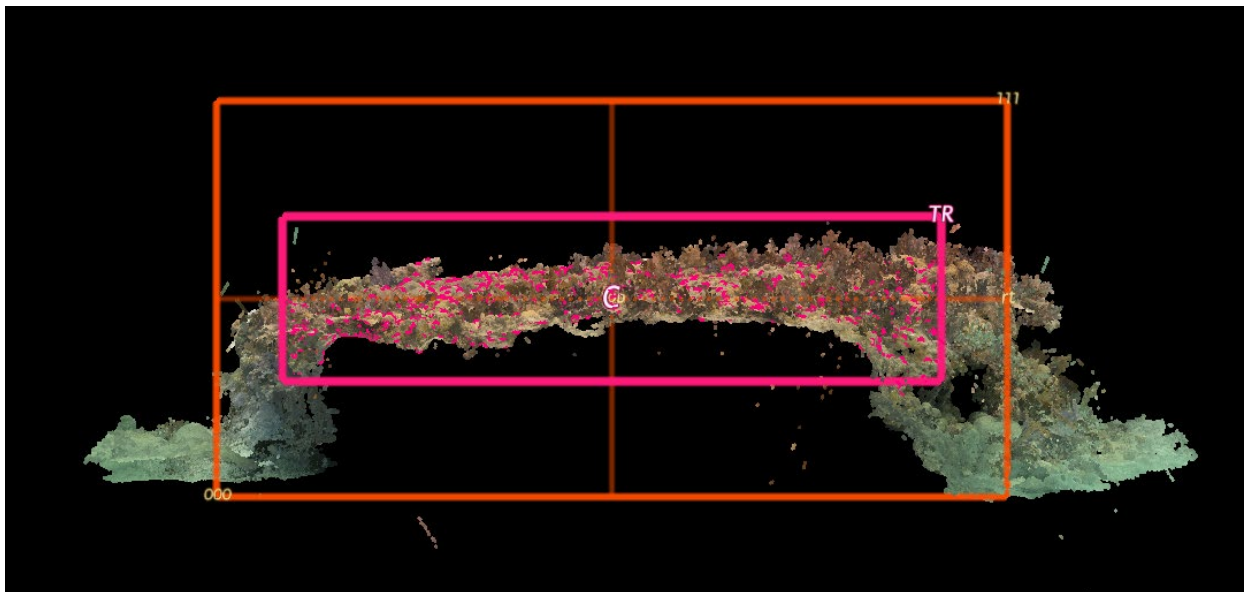

Figure 111. Ensure the box encapsulates the entire height/depth of the layer.
- To check if the depth is appropriate, press the Down arrow key to see the side view of the layer. The red box should encompass the entirety of the layer (Figure 111).